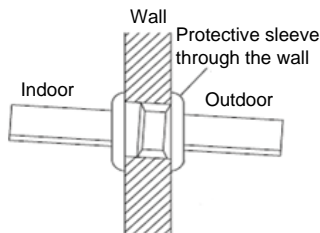
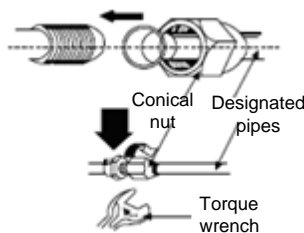

Figure 7-1 Refrigerant connecting pipe through the wall
Figure 7-2 Fastening the connecting pipe
(1) If the water tank and the main unit need to be connected by punching through a wall, a hole of  $\Phi 55$  mm must be drilled in the wall and the hole should be inclined toward the exterior wall, as shown in Figure 7-1. Protective sleeves need to be put on both sides of the hole.
(2) Bind up the connecting pipes, power cable, water temperature sensing package, and communication lines (if necessary) of the wired controller with thermal insulation bands, and then lead them through the hole.
(3) Remove the refrigerant pipe joint from the water tank and the sealing nuts from the small and large valves of the outdoor unit, and add refrigerant oil on the joint and valve cones.
(4) Remove the sealing caps of the connecting pipe. Align the center of the bell mouth with the pipe joint and valve cone, and screw up the conical nut with your hand and then with a wrench, as shown in Figure 7-2.